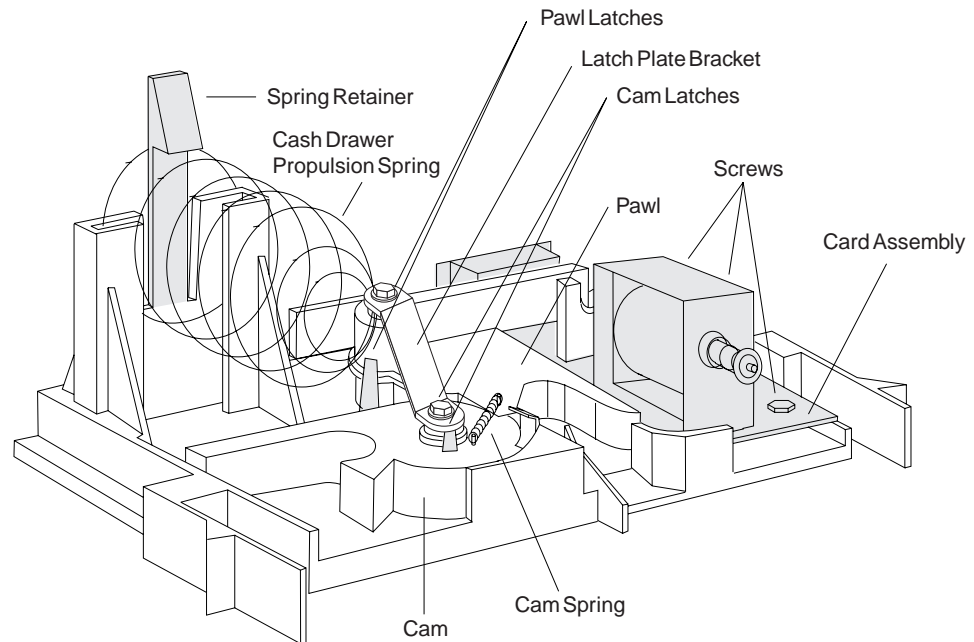

Figure 70. Cash-drawer latch and sensor assembly
4. Remove the cash-drawer propulsion spring by pushing the spring retainer back, and then slide the spring up and out of its mounting slots (see Figure 70 on page 83).
5. Remove the latch plate bracket by removing the screw in the cam pivot post and the screw in the pawl pivot post (see Figure 70 on page 83).
6. Remove the cam spring by lifting the ends of the small posts on the cam and the pawl (see Figure 70 on page 83).
7. Spread apart the two pawl latches that hold the pawl on the pivot post, while lifting the pawl off the post (see Figure 70 on page 83).
8. Spread apart the two cam latches that hold the cam on the pivot post, while lifting the cam off the post (see Figure 70 on page 83).
9. Remove the three screws that retain the card assembly and remove the card assembly (see Figure 70 on page 83).